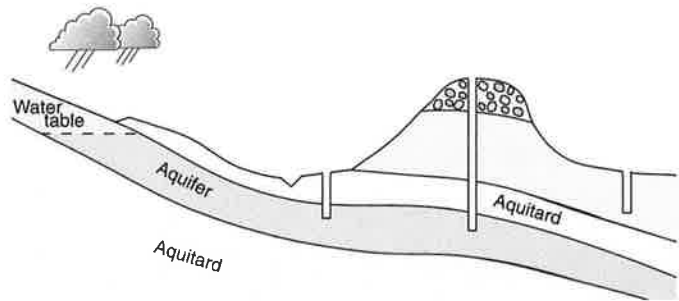

Figure 10-24. Three wells with different hydrologic settings.
Q10-17. On Figure 10-24 on Answer Page 176, label each well with the correct letter as described in the text beside that figure.
- 10-17 (Label Fig. 10-24.) A—Possibly a flowing artesian well.